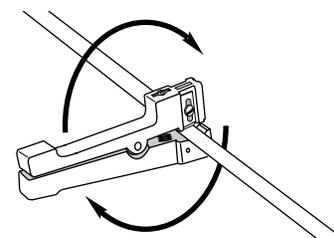

Figure 23
- c) Use the other hand to rotate the tool around the central tube two to three complete turns to score it (Figure 23). Remove the tool from the central tube.